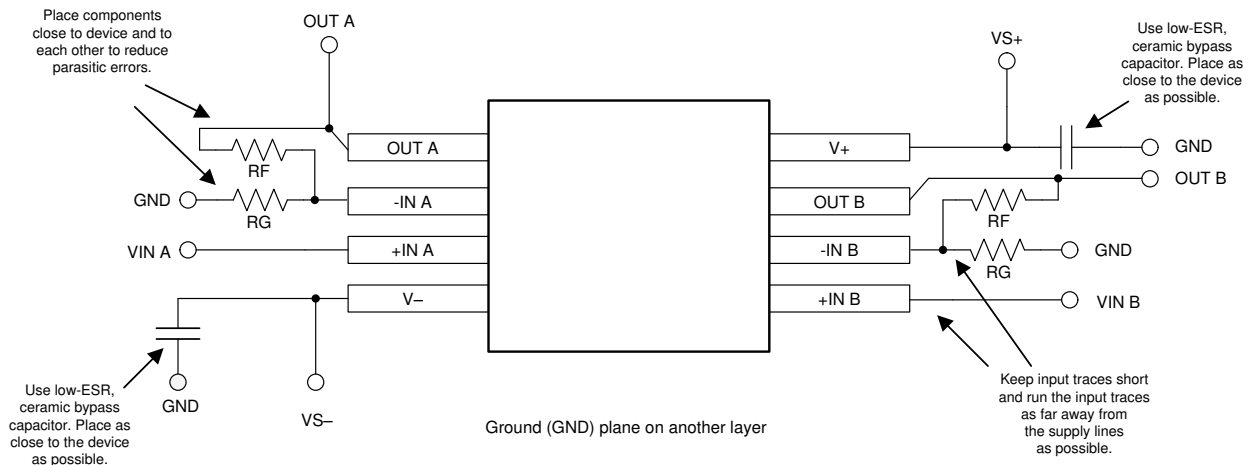

Figure 11-2. Layout Example
- Place the external components as close to the device as possible. As shown in Figure 11-2, keeping RF and RG close to the inverting input minimizes parasitic capacitance on the inverting input.